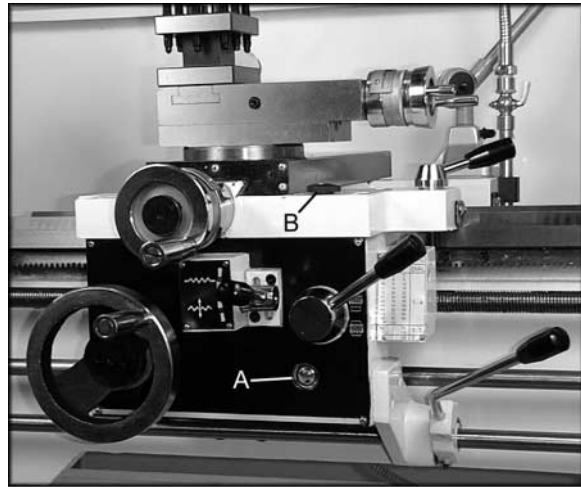

Figure 7
3. **Apron** - oil must be up to indicator mark in oil sight glass (A, Fig. 7). Top off with Mobil DTE® Oil Heavy Medium. Remove oil cap (B, Fig. 7) on top of apron to fill. To drain, remove drain plug on bottom of apron. Drain oil completely and refill after the first month of operation. Then, change oil in the apron annually.